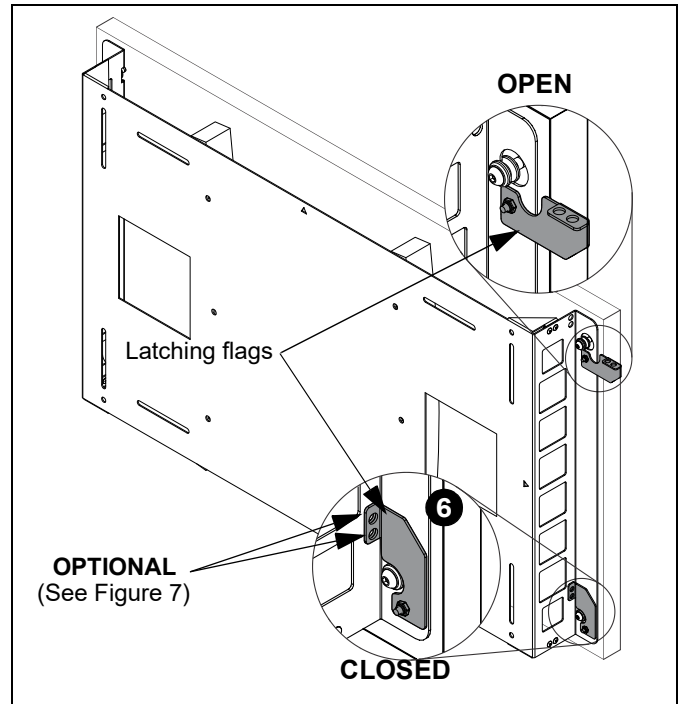

Figure 6
6. Move latching flags to **CLOSED** position. (See Figure 6)